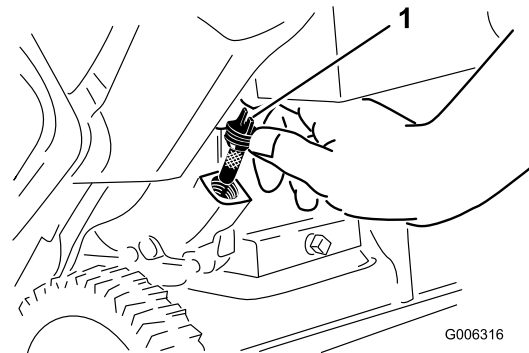

Figure 9
2. Clean around the oil fill cap (Figure 9).